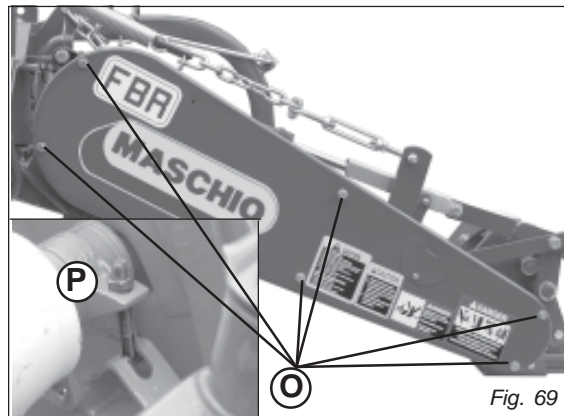

Fig. 69
- Unscrew the screws (O, Fig. 69) and remove the protective casing.
- Loosen the belt tensioner completely (P, Fig. 69).
- Put the protective casing back in position and fix it in place with the screws (O, Fig. 69).